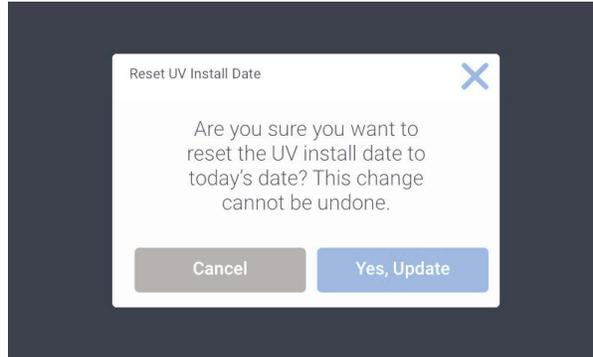

Figure 4-21. UV Reset Confirm Pop-up Screen
- Tap the “Reset” button to update the installed date, and the UV work hours will be fall to zero. When you tap the “Reset button”, a pop-up screen shown in Figure 4-21